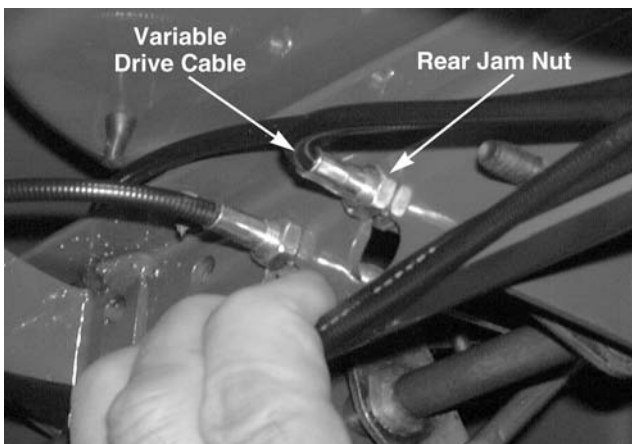

Figure 8-15.
6. Locate and loosen the variable drive cable adjustment jam nuts using two 1/2" wrenches. See Figures 8-15 and 8-16.
7. By hand, loosen the rear jam nut (closest to the deck) until it bottoms out on the threaded cable end. See Figure 8-15.
9. By hand, tighten the rear jam nut (clockwise) until it is snug up against the rear of the front channel assembly. See Figure 8-15.
6. Locate and loosen the variable drive cable adjustment jam nuts using two 1/2" wrenches. Refer to Figures 8-15 and 8-16.